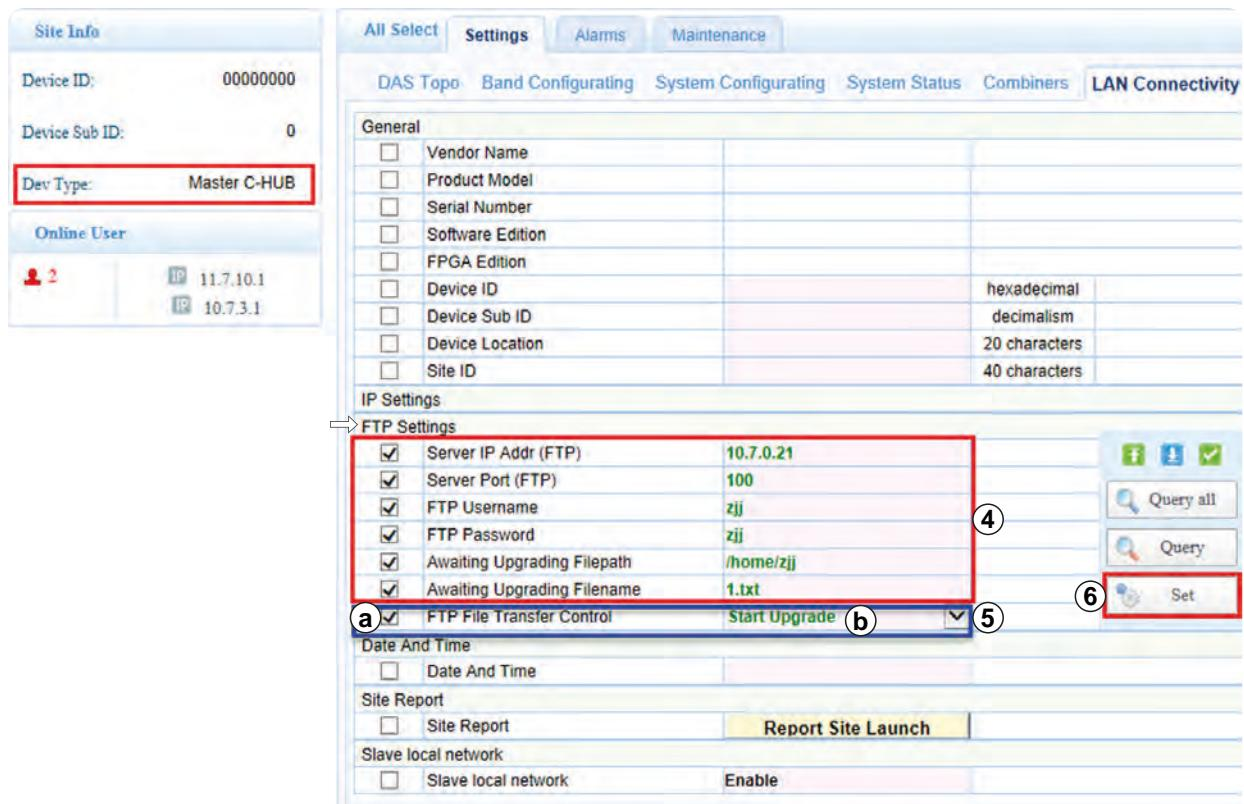

Fig. 10: FTP parameters (C-hub)
1. Set the FTP server parameters¹⁾ (④ in Fig. 10).
2. Select the **FTP File Transfer Control** checkbox ⑤ⓐ.
3. Select **Start Upgrade** ⑤ⓑ and press **Set** ⑥.